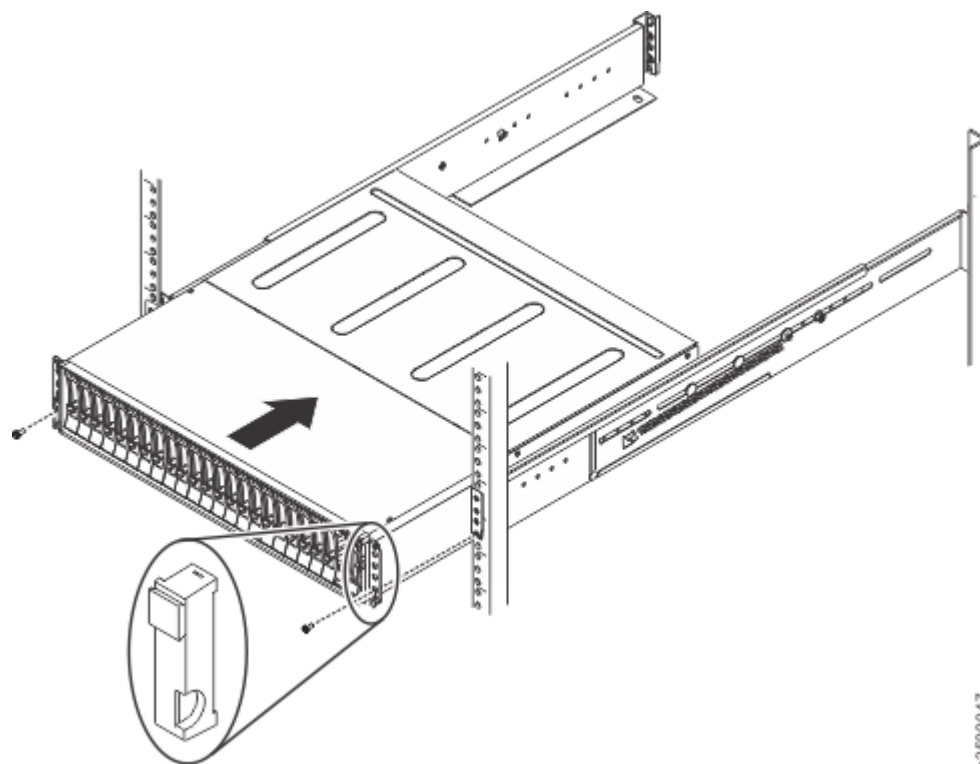

Figure 27. Inserting the enclosure
3. Slide the enclosure into the rack along the rails until the enclosure is fully inserted. (See Figure 27 on page 64.)